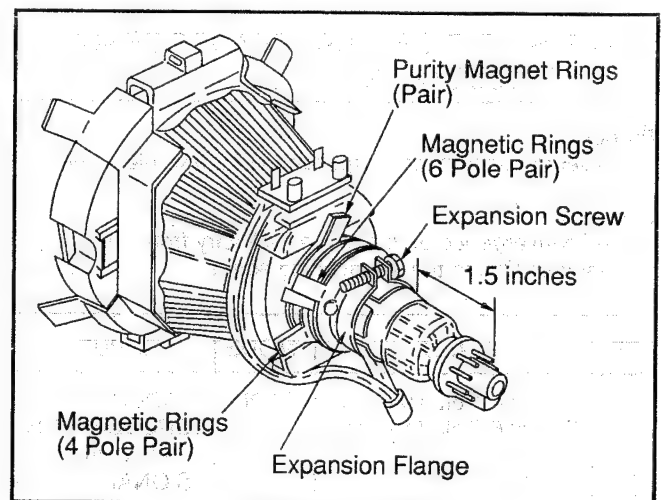

Fig. E12
1. Mount and secure Deflection Yoke so that the rear edge of expansion flange is 1.5 inches from the tips of the CRT pins as shown in Fig. E12.